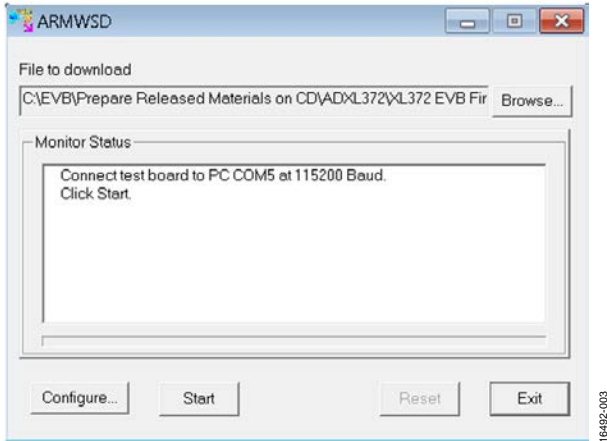

Figure 3. ISEB ARMWSD Firmware Downloader
2. Run the `ARMWSD.exe` program located in the `/ISEB_USB/FW/` folder. It displays information about the downloader, as shown in Figure 3.
6. After selecting the COM port, click **OK** to accept the changes and return to the **ARMWSD** dialog box (see Figure 3).
1. Click **Start** in the **ARMWSD** dialog box (see Figure 3) to initiate the flashing.
3. If the downloading process fails, which is indicated in the **Monitor Status** box (see Figure 3), attempt the download again by clicking **Start** and then pressing the appropriate switch combination. It may require a few attempts to reprogram the board.
4. After the download has completed, click **Reset** (as shown in Figure 3) to reset the ISEB and to begin running the new firmware. When this step is complete, the board is updated correctly.